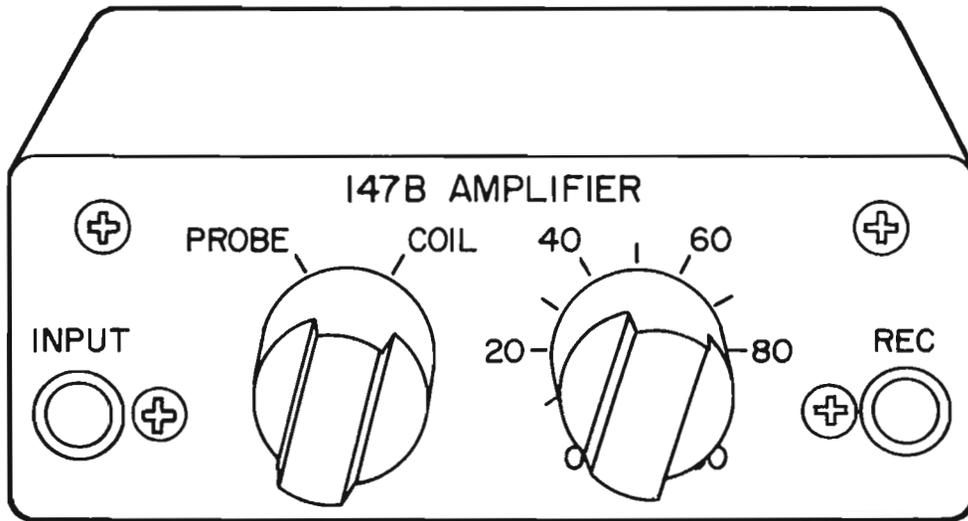

Figure 3. 147-type Amplifier
2.05 The amplifier (Figure 3) is mounted in an aluminum casing. Outside dimensions are 4 7/16 in x 4 7/16 in. x 1 7/16 in.